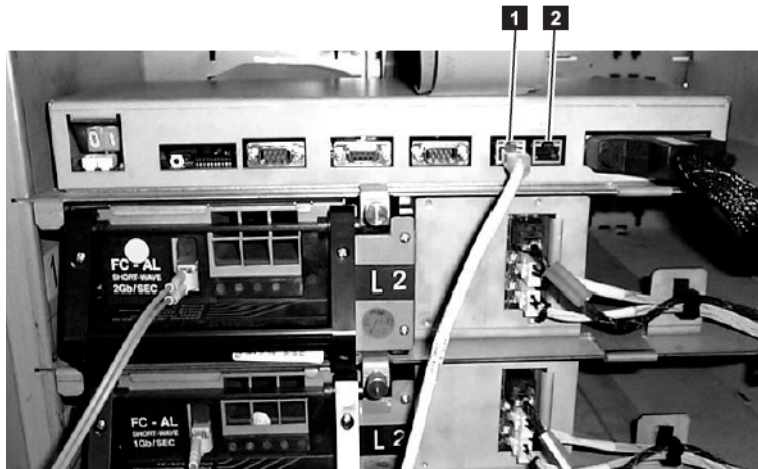

Figure 12-11 View of the Medium Changer Assembly identifying the two Ethernet ports
Refer to Figure 12-11 on page 335 for a view of the Medium Changer Assembly, identifying the locations of the two Ethernet ports. Use the ports as follows:
- ▶ Use Port A (identified as 1 in Figure 12-11 on page 335) to connect to the Tape Library Specialist Web interface.
- ▶ Use Port B (2) to connect to an optional TS3000 System Console (TSSC).
The four controllers are in different locations. The Operator Panel controller is located directly on the Operator Panel. The accessor and MDA are attached to the accessor. The MCA is located above the drives as seen in Figure 12-11 on page 335.